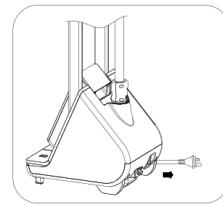
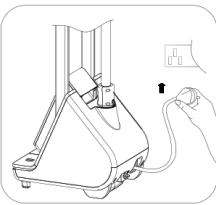
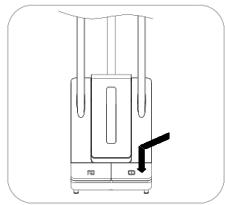

Fig. 12
Fig. 13
Fig. 14
- Fill the water from the water filled cover,opne the cover of water tank, fill the water into water tank, Fig.12, Fig.13, Fig.14.
- The coil of thread is used, the power supply cord : (out from behind the twelve), the socket. don't use up with a foot pedal, the roll line and power cable will be automatically shrunk to the roll line and effectively operate to diminish the power line with the object of frictional effects.Two gears steam adjustable: the power supply cord (sauntered) the lights and steam (the foot as in figure 14), on the back of the first light (yellow light show) steam can be used to express one gear on the second down (back light green light to show from the second seeds) steam can be used.